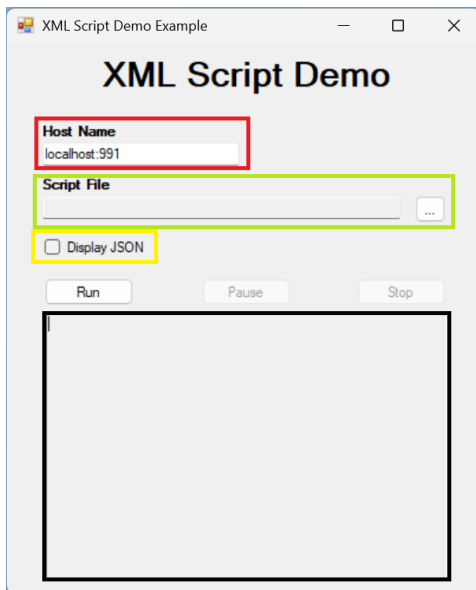
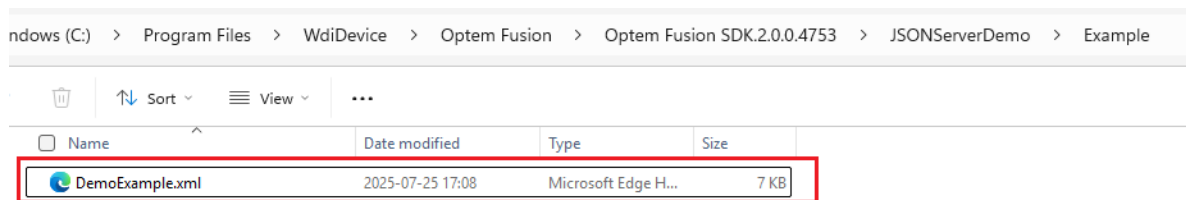

Figure 45 XML Script Demo Window
Figure 46 XML script file folder
- Once the tool is open, input the name of the host machine in the Host Name text box (outlined in red in Figure 45)
- Click the selection button to the right of the Script File text box (outlined in green in Figure 45), to select the XML script file to load (outlined in red in Figure 46).
- Select the **Display JSON** checkbox (outlined in yellow in Figure 45) if you want to show the JSON request that is sent to the server.
- Click **Run** (Figure 45), to start the XML script. The operations will be output to the log window below the Run button as they happen.